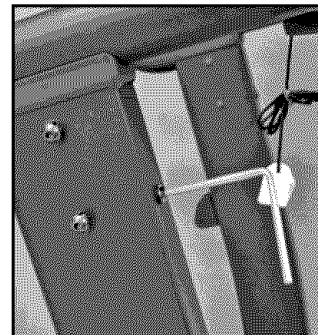

Figure 8-2
8-3 Attach the upright using (6) 5/16" x 1" button head screws and (6) 5/16" flat washers SAE (3 per upright). Tighten with the provided 3/16" hex key (see Figure 8-2).